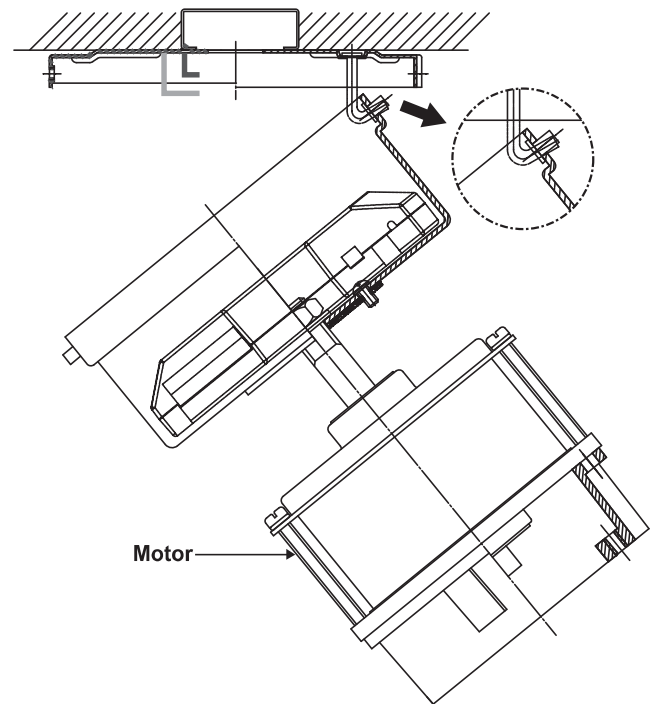

Figure 5
Step 3. Lift fan into position by hanging the motor assembly onto the hook from the mounting bracket allowing it to hang freely (Fig. 5).